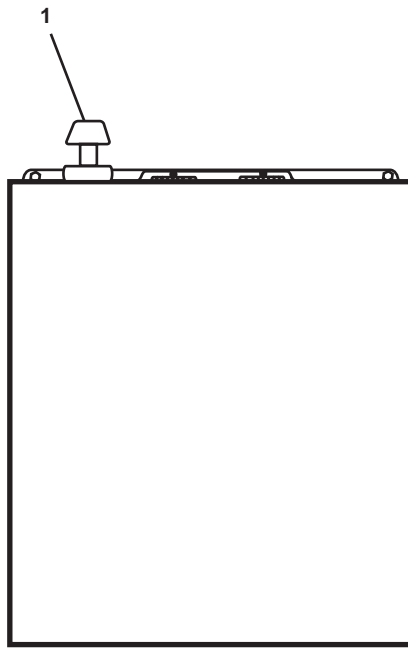

Figure 3. Bow Thruster Shaft Brake Plunger
3. Wait until the bow thruster engine stops completely, then push the shaft brake plunger (figure 3, item 1) DOWN to lock the bow thruster shaft.